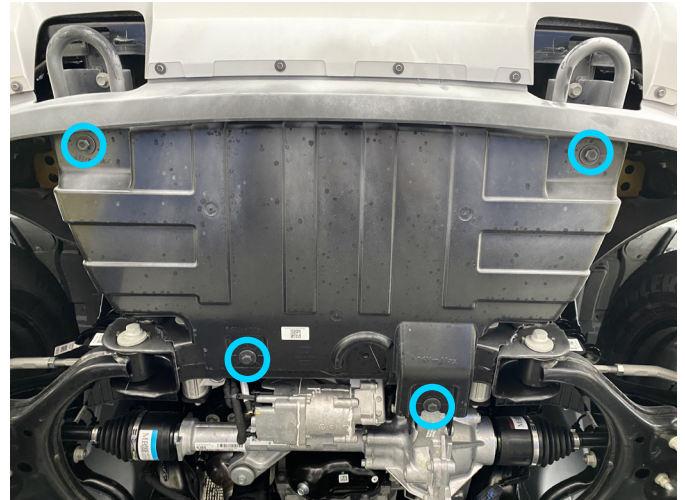

Fig. 2
****If the vehicle has the RIVAL radiator skide plate, loosen the rear and front bolts of radiator skide plate or bolts of the RIVAL radiator skid plate 2111.1884.1.3 / 2333.1884.1 / 2333.1884.1.6 (fig.2).**